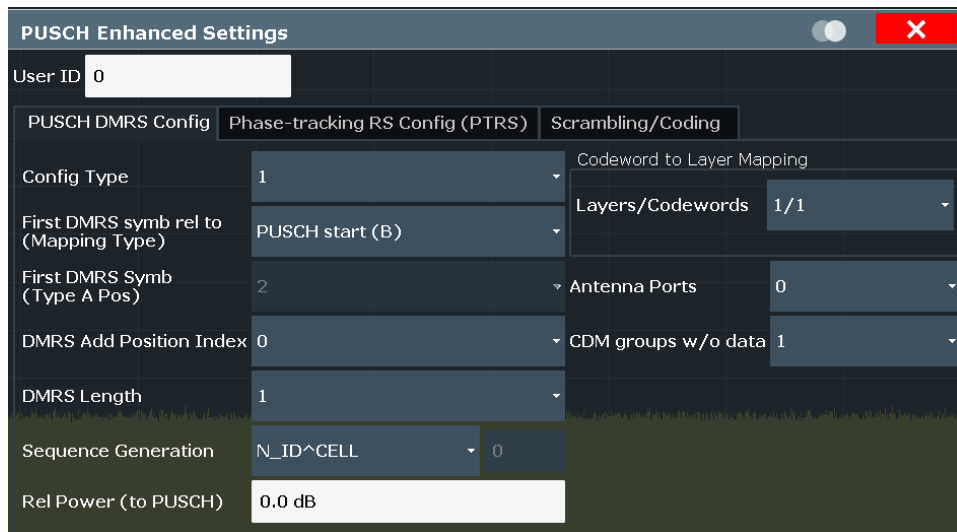

Fig. 4-24: PUSCH enhanced settings configuration window
- Select the DMRS Mapping format: PUSCH start (B) as shown in Fig. 4-24